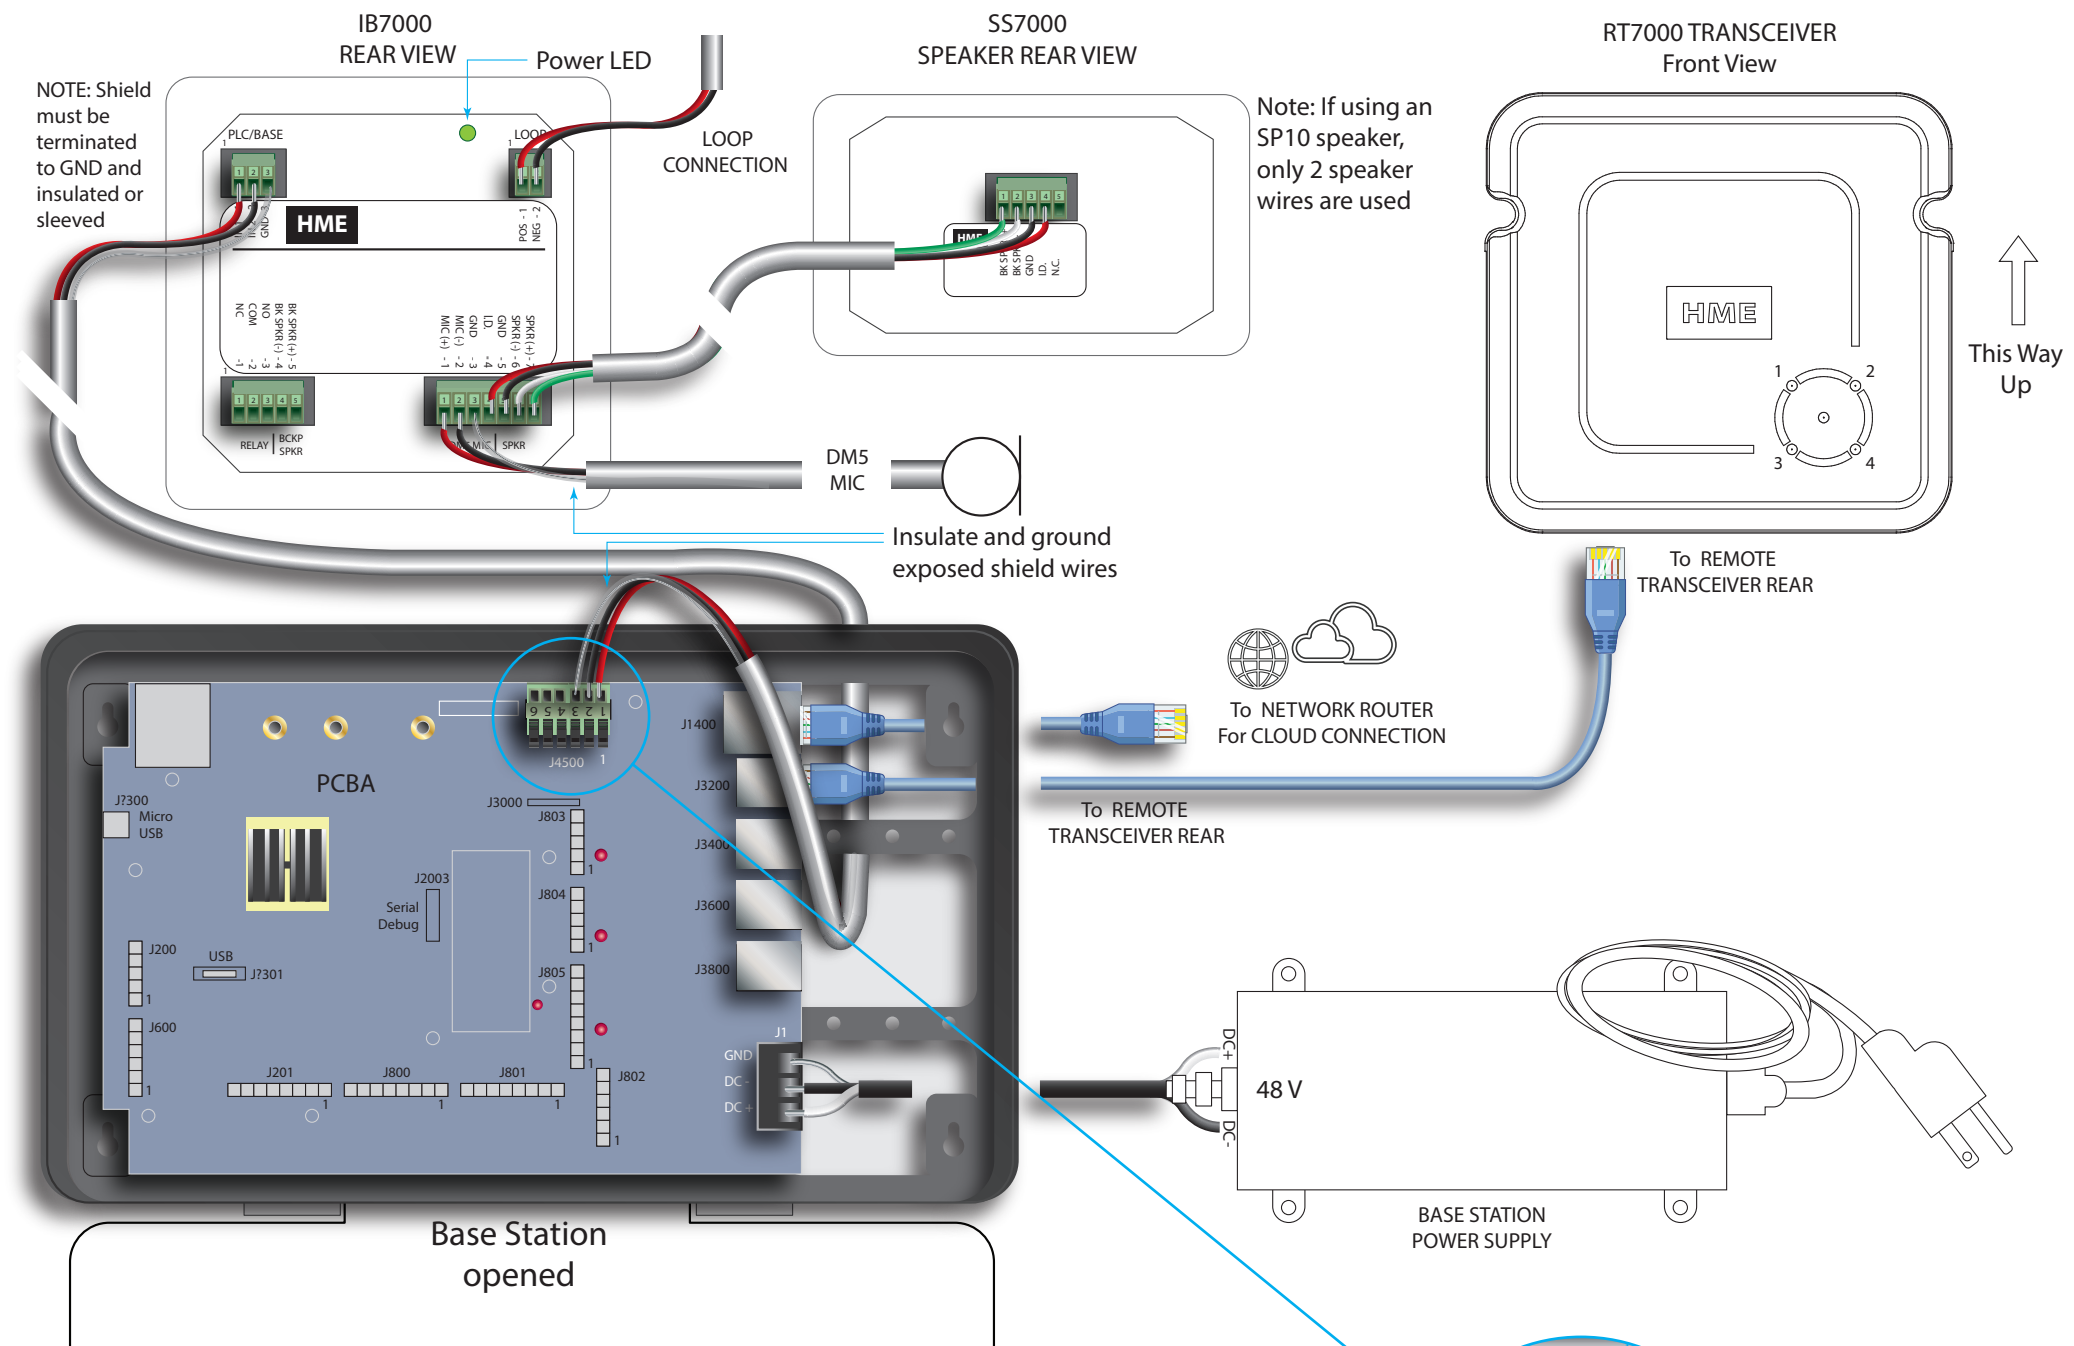

Fig. 2.3
- 6 Install the other components. The DM5 microphone and SS7000 speaker, or SP10 speaker, must be installed using the IB7000 interface box. Use Fig. 2.3 as a wiring reference and see “Component Notes” on page 3.
J4500 Detail: Fig. 2.3 shows the connections for a single-lane drive-thru.